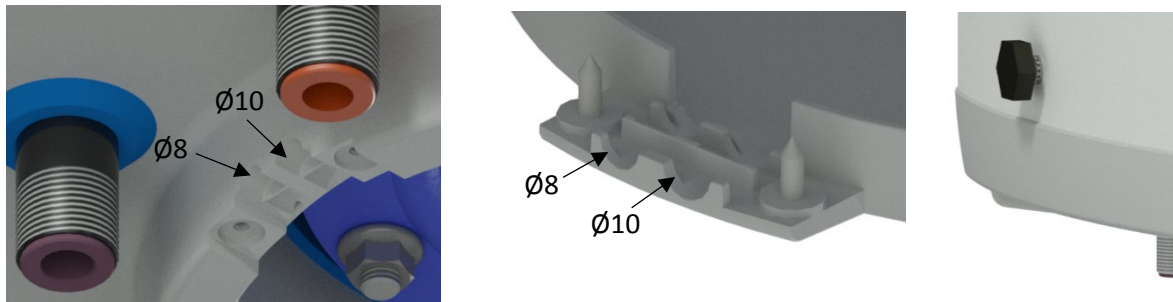
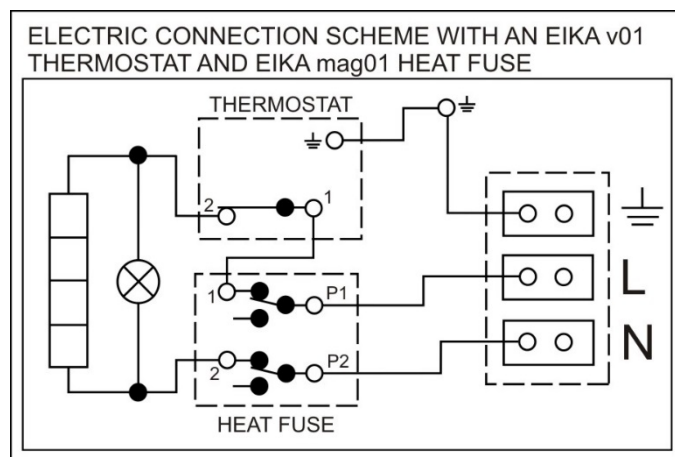

Figure 8
Figure 9
Perform the connection according to the scheme. Factory connection must not be changed! (Figure 9) the electric wiring casing remove the partition corresponding with the input wire diameter of  $\varnothing 8$  or  $\varnothing 10$  (Figure 8). The degree of protection of electric parts of the heater is IP 44. Power input of electric element is 2200 W.
- The electric wiring scheme is attached to the water heater on the side of the electric installation guard (Figure 9)